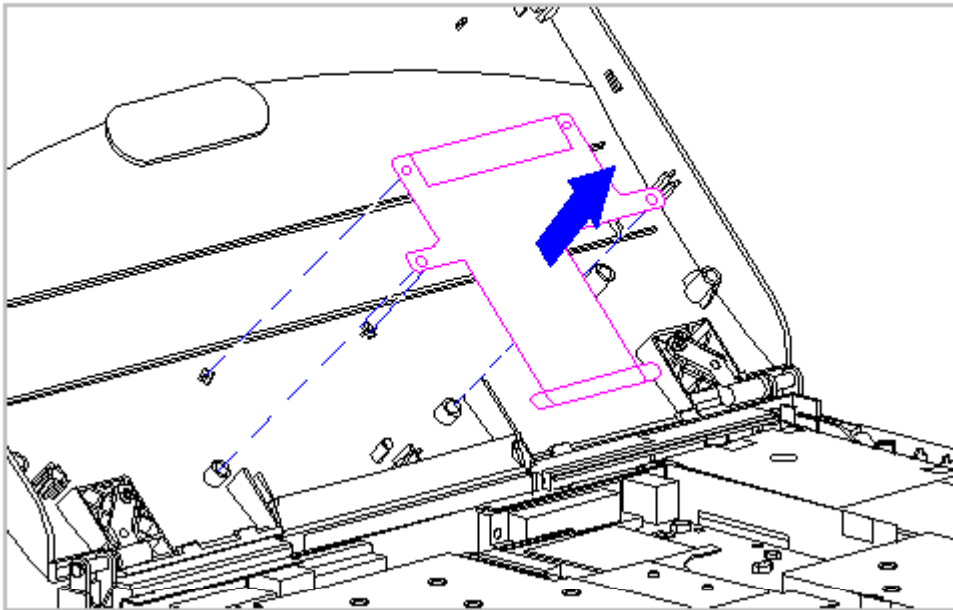

Figure 5-90. Removing the Display Ground Cable from the Display Enclosure - CSTN (10.4 in) Display
17. Lift the display ground cable out of the display enclosure (Figure 5-90).